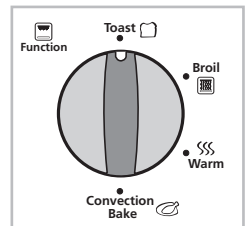

Figure 1
1. **Function Selector dial** – Select cooking function by turning knob to desired setting. (See Figure 1)